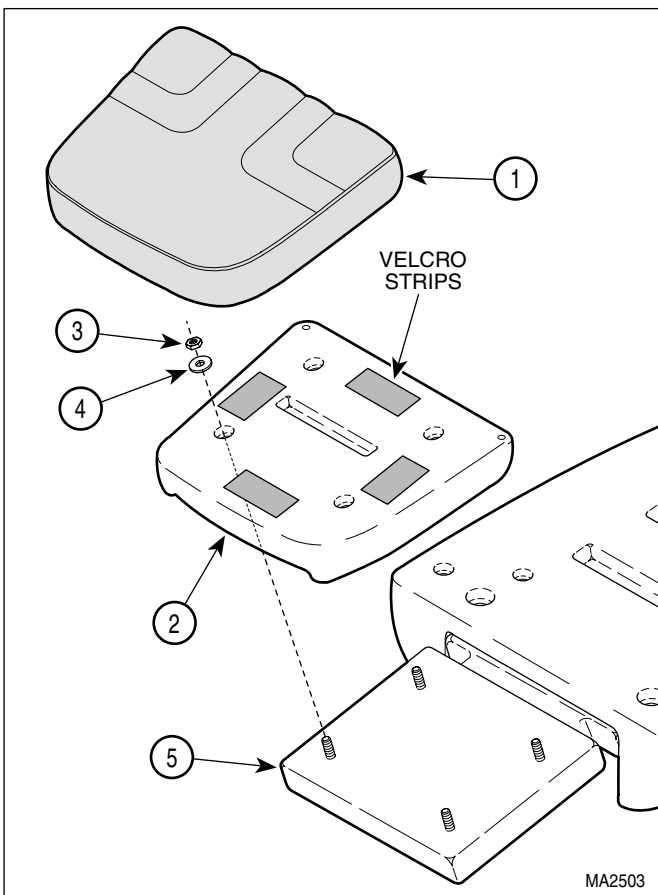

Figure 4-17. Plastic Foot Section
- (1) Remove upholstered foot section (1, Figure 4-17) from plastic foot section (2).
- (2) Remove four nuts (3), washers (4), and plastic foot section (2) from foot section weldment (5).